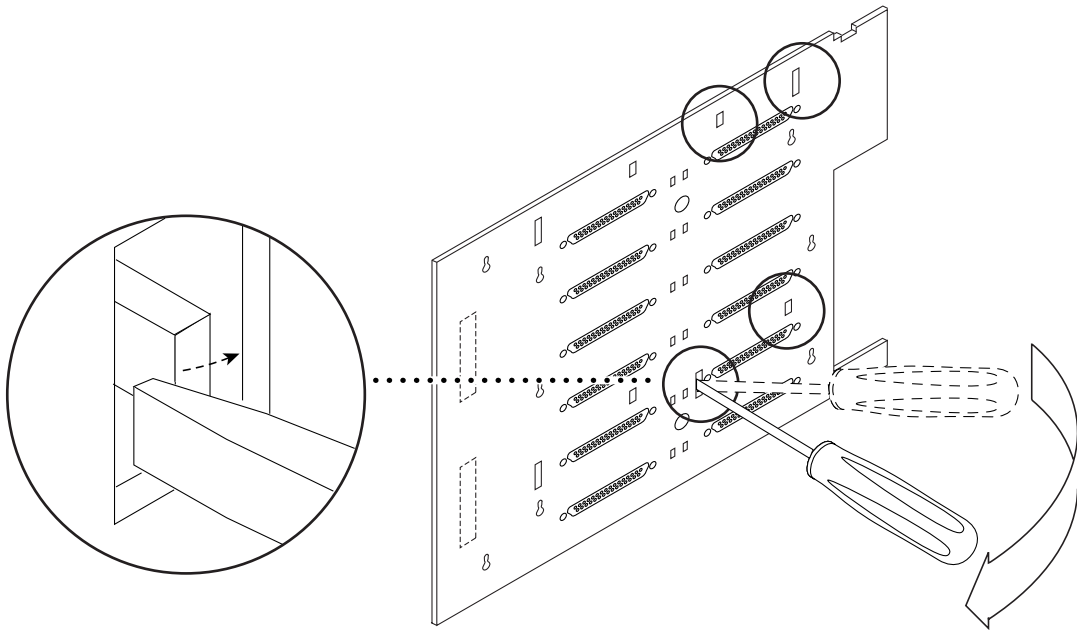

FIGURE 5-7 Unlatching the Tabs on the Right Side
- b. Angle the screwdriver to your left to unlatch the four hooks on the right side of the unit (FIGURE 5-7).**